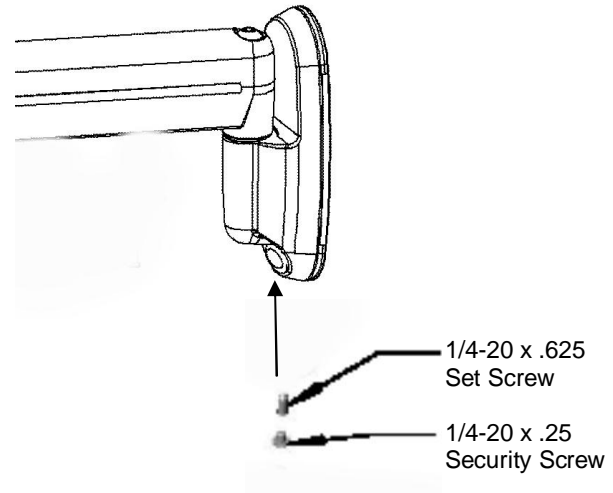

Figure 6. Install Security Set Screws (Option I)
**NOTE:** If your wall plate uses a 1/4-20 set screw, replace it with a 1/4-20 x 5/8" security set screw (40) and a 1/4-20 x 1/4" security screw (30). The existing set screw in the wall plate is too long to be used with the 1/4-20 x 1/4" security screw.
3. Install a 1/4-20 x 5/8" security set screw (40) and a 1/4-20 x 1/4" security screw (30) into the wall plate in the order shown in Figure 6.